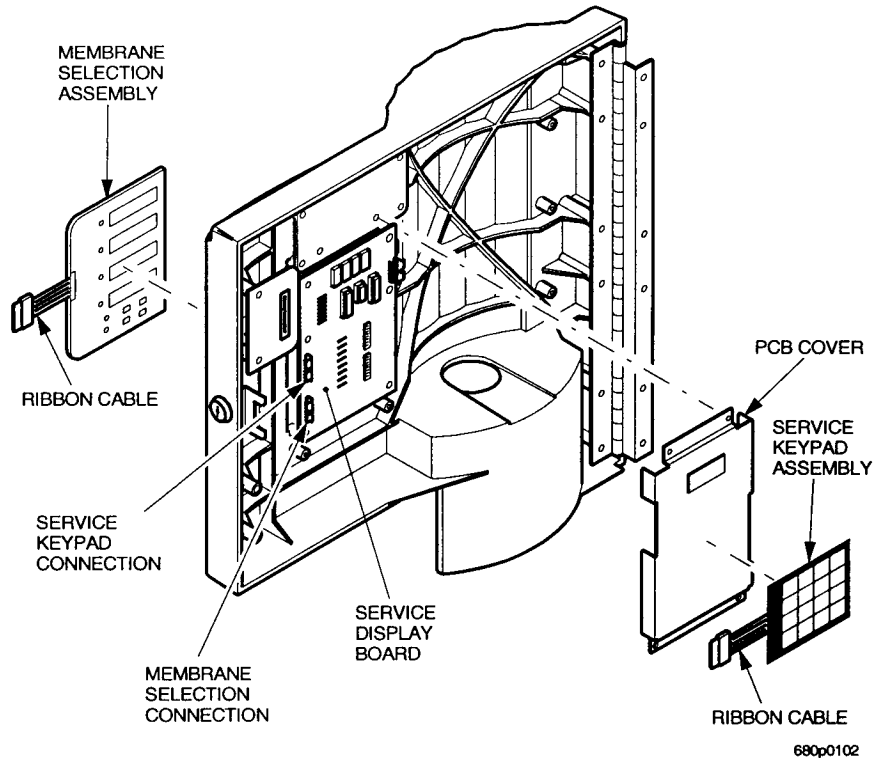

Figure 1
3. Note the routing of the service keypad ribbon cable and connector (see figure 1). Disconnect the service keypad from the service display board.
1. Note the routing of the membrane selection keypad ribbon cable and connector (see figure 1). Disconnect it from the service display board.